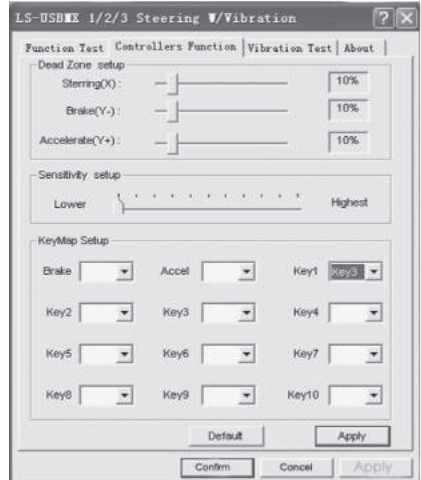

Fig. 8
• Choose Controllers to set axes and buttons (Fig. 8).
- Dead Zone setup: controller will not respond to a slight touch of acceleration pedal (Accelerate Y+), or brake pedal (Brake Y-), or turns of the wheel (Steering X), therefore necessary adjustments should be made by cursors (Fig. 8);
- Sensitivity setup: the higher sensitivity is, the swifter and more efficient response of controller to pressing of pedals and turns of the wheel will be, therefore necessary adjustments within Lower to Higher range should be made by cursors (Fig. 8);
- KeyMap Setup reprograms functional keys: there should be chosen new necessary assignment against the key designation (Fig. 8);
- After installation of the driver, the controller can be automatically centered by pressing MODE button ⑩.